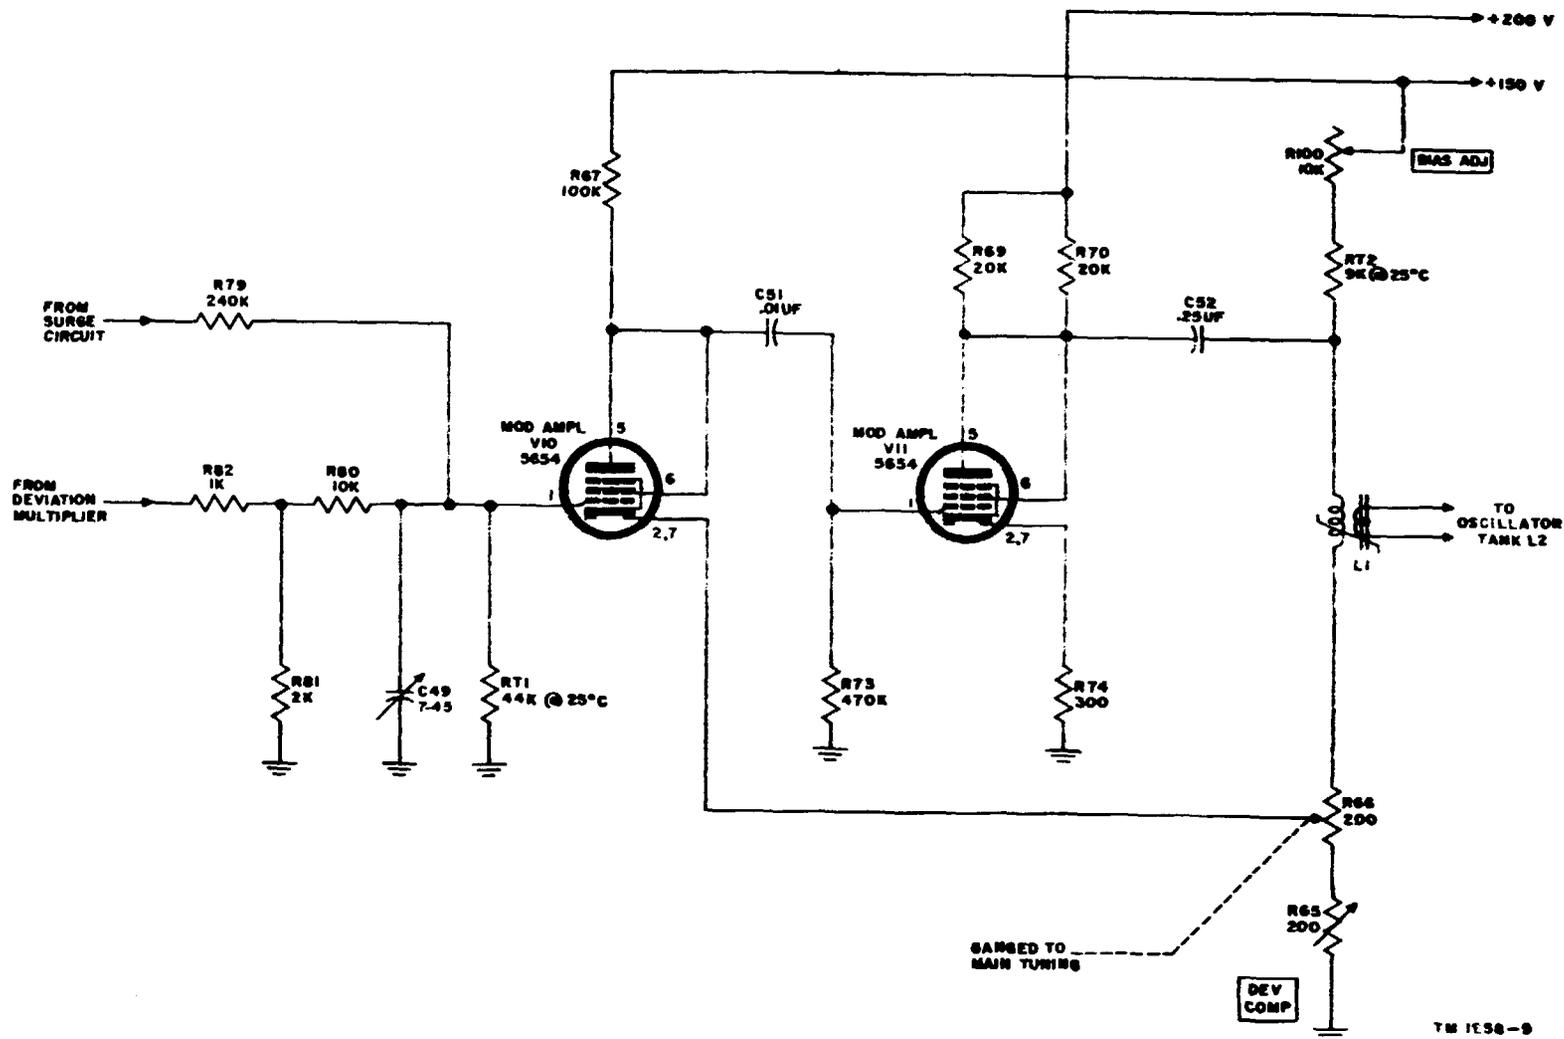
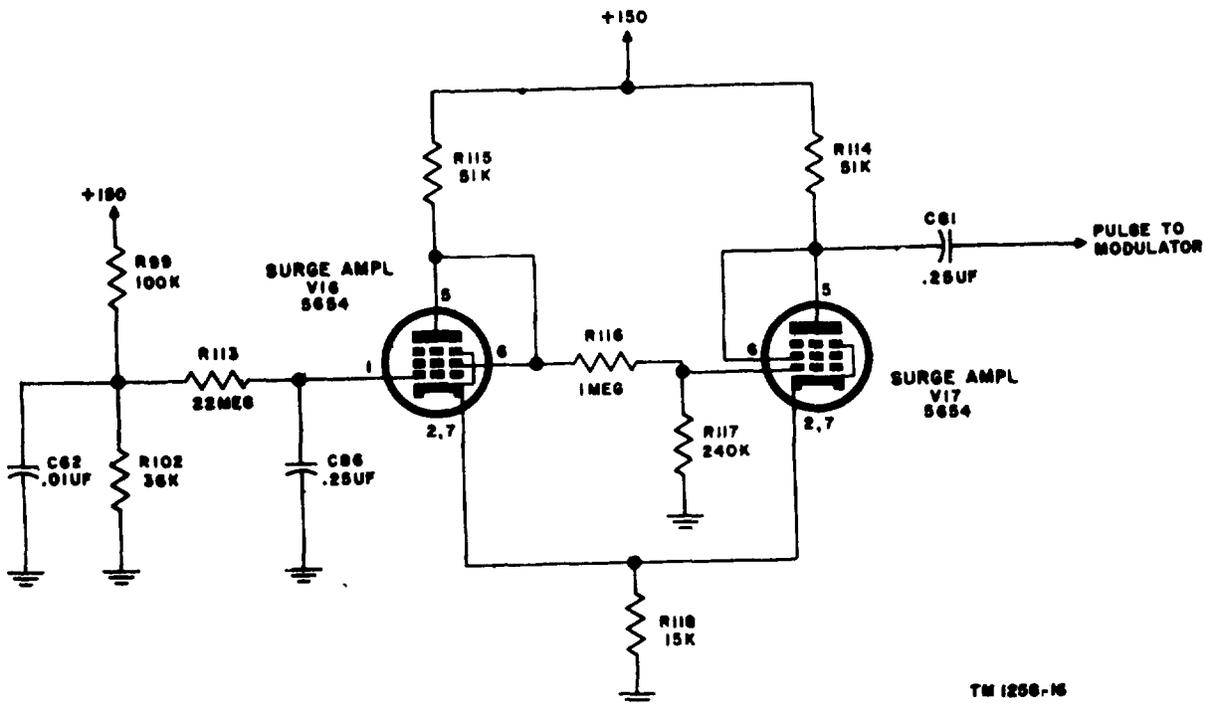

Figure 10. Modulator V10 and V11.
Figure 17. Surge circuit
a. The modulator circuit (fig. 10), which consists of two triode connected type 5654 pentodes, amplifies the output signal of audio oscillator V3
a. The surge circuit (fig. 17) is a one-kick de la multivibrator that functions once each time the plate supply is energized. Its purpose is to develop a pulse of voltage which, when applied to the control winding of saturable reactor L1 (fig. 10), will overmagnetize the core material and place the inductance of the signal winding at the proper value. This is done to prevent a shift in rf output frequency at the time the signal generator is turned on.
capacitor C81 and resistor R79 (fig. 10) to the grid of modulator amplifier V10. The surge multivibrator circuit remains with V17 at cutoff and V16 conducting heavily until the plate supply is turned off. Capacitor C86 then discharges through R113 and R102, and the cycle then is ready to be repeated.